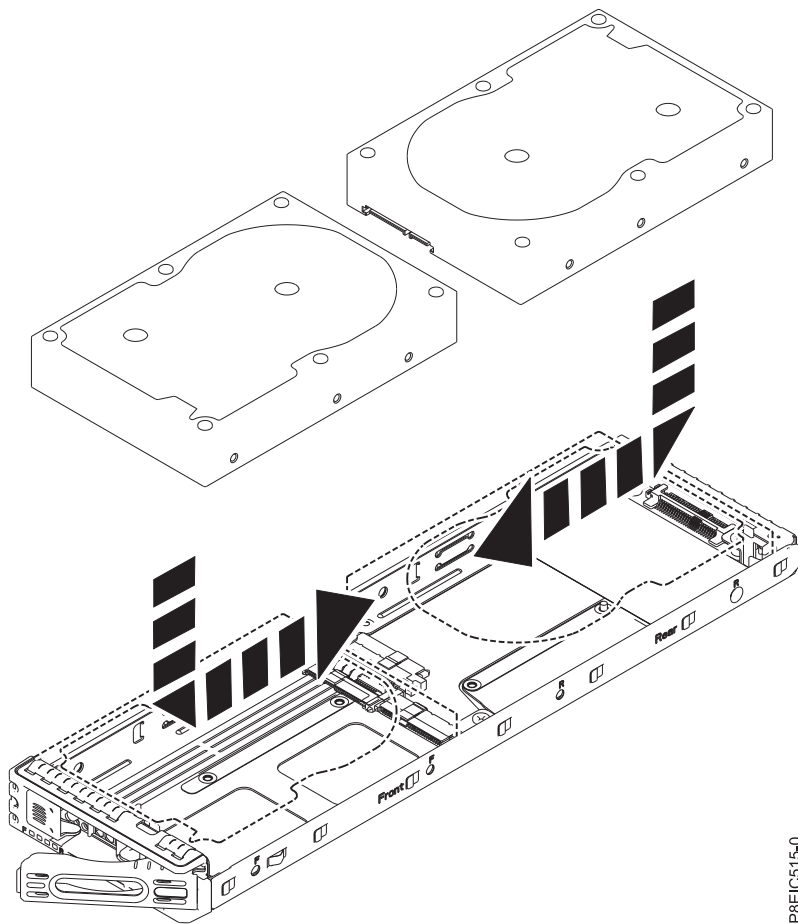

Figure 14. Installing the 3.5 inch drive into the tray
- a. Place the drive in the tray, then slide the drive into the socket, as shown in Figure 14 on page 16.